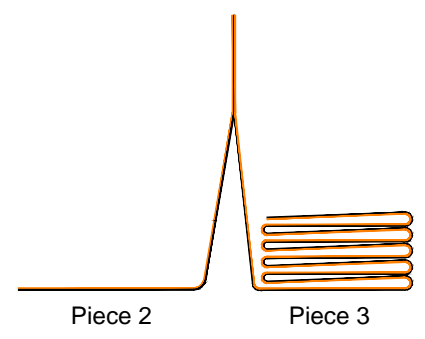

FIGURE 5
5. ONCE PIECE 3 IS UNROLLED LIFT END OF PIECE 2 AND SEW BLACK TO BLACK, (FIGURE 5)